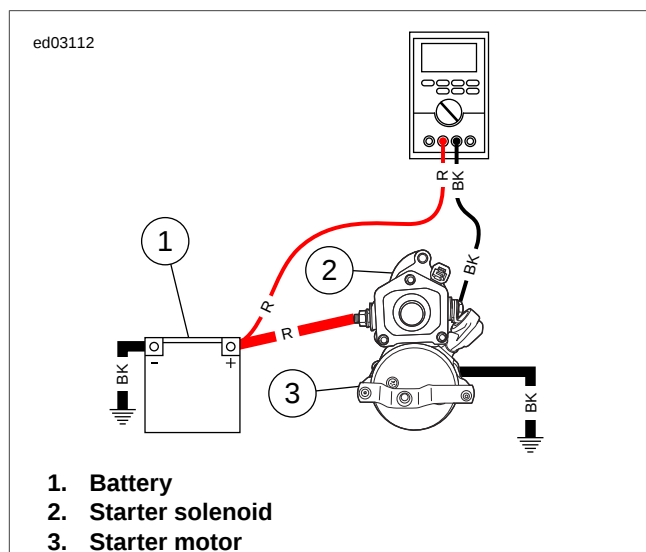

Figure 1-44. To Starter Solenoid Starter Terminal
- a. See Figure 1-44. Connect the red meter lead to the positive battery post.
- b. See Figure 1-44. Connect the black meter lead to the starter side post for the starter solenoid and observe the meter reading.